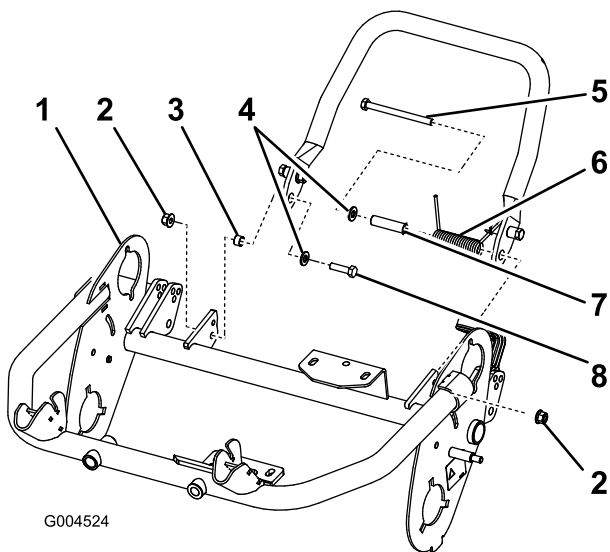

Figure 10
2. Install a washer (M8) onto the small bolt (M8–1.25 x 030). Install the right side of the kickstand to the frame with the bolt and washer, the small spacer, and locknut (M8–1.25) (Figure 10). Ensure the bolt is installed from the inside of the frame as shown in Figure 10.
Important: When installing the spring, place one end of the spring under the rear frame (Figure 10).
5. Install the left side of the kickstand to the frame with the bolt and washer, the large spacer and spring, and locknut (M8–1.25) (Figure 10). Ensure the bolt is installed from the inside of the frame as shown in Figure 10.